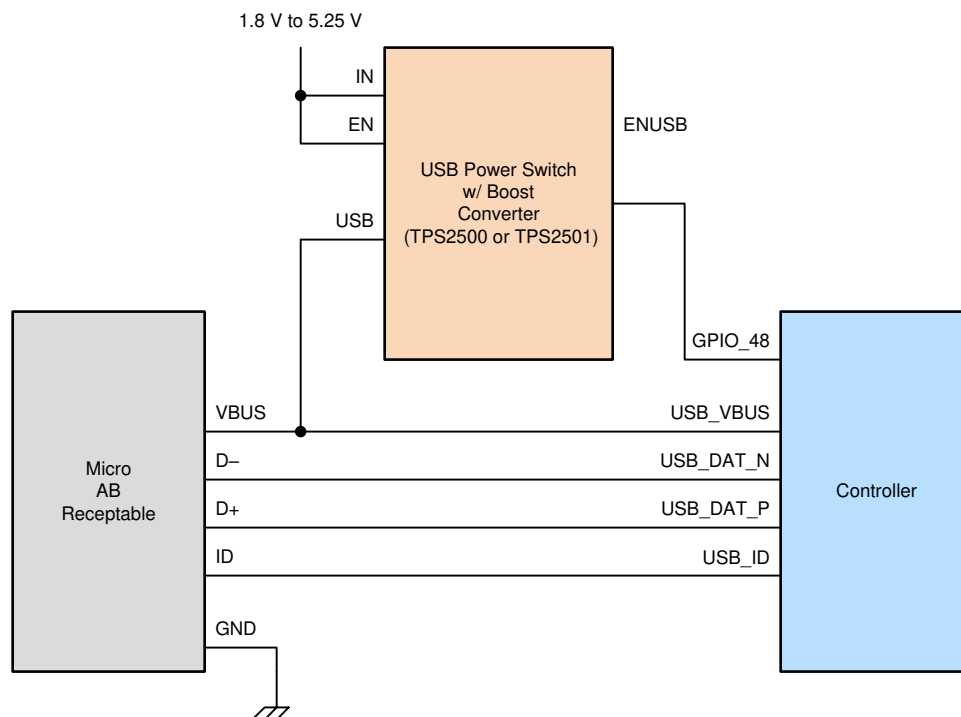

Figure 6-3. External USB Switch Example for DLPC7540 Controller as USB OTG Master
- (1) Referenced to VAD33_USB (I/O type 11)
- (2) When used as a master as part of USB OTG, the DLPC7540 requires an External USB Switch to provide the USB 5-V power. The example shown in Figure 6-3 makes use of a TI TPS2500/2501 device. The example figure does not describe the required ancillary components (such as, resistors and capacitors). For this information please refer to the USB Switch logic datasheet for the selected device. The External USB Switch is not required for product configurations that are supporting USB slave mode only.